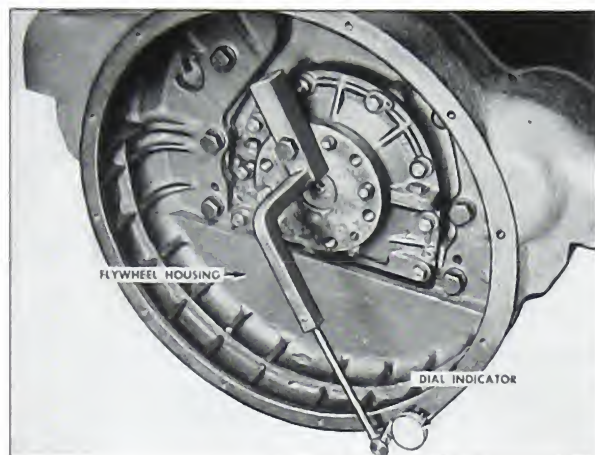

Fig. 12-10. Indicating flywheel housing face
7. Shift the gauge to indicate the housing face. See Fig. 12-10. Turn the crankshaft to get readings at various points on the face of the housing. Each time before taking a reading, use a pinch bar between a main bearing cap and crankshaft throw to take up crankshaft end clearance. Take up end clearance the same direction each time. The reading taken at various points must not vary more than .008.